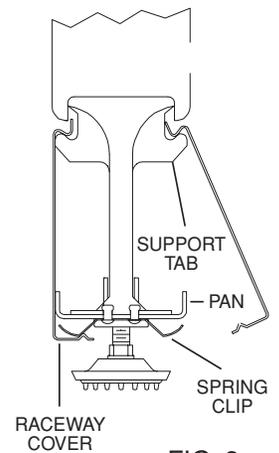

FIG. 3
1. With panels installed, panel-to-panel connectors in place, receptacles located, and all other wiring completed (see section two of this book), the last step is to install the raceway covers. Hook the appropriate length raceway cover into place on the tabs of the support housings. Swing the raceway cover down until the spring clips on the pan snap onto the notch provided (Figure 3).